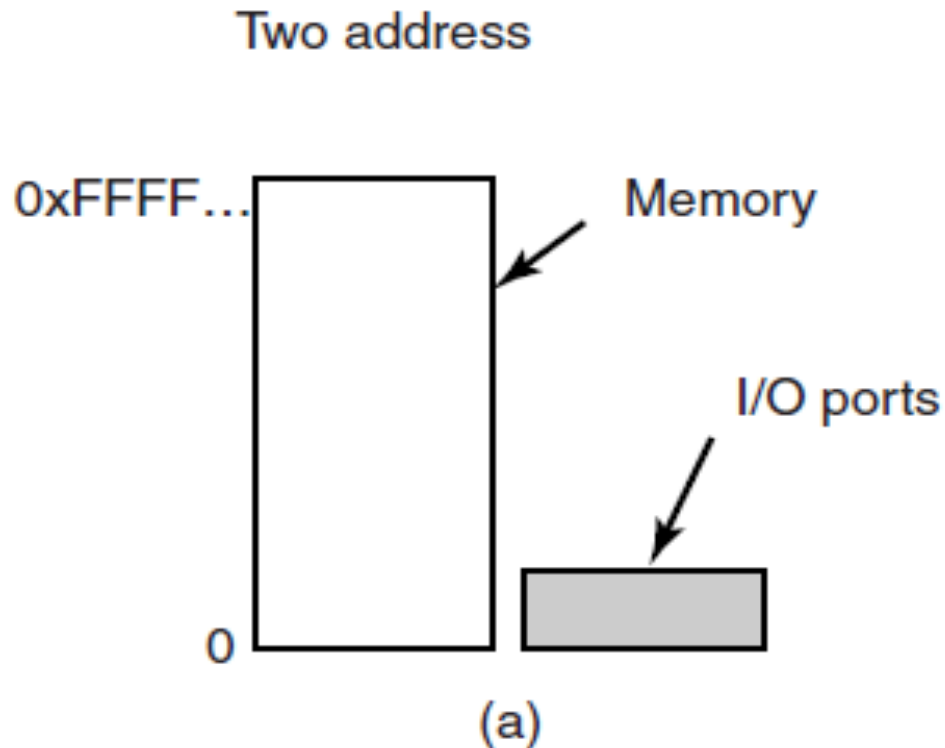

Figure 5-2. (a) Separate I/O and memory space
- In this scheme, the address spaces for memory and I/O are different, as shown in Fig. 5-2(a)